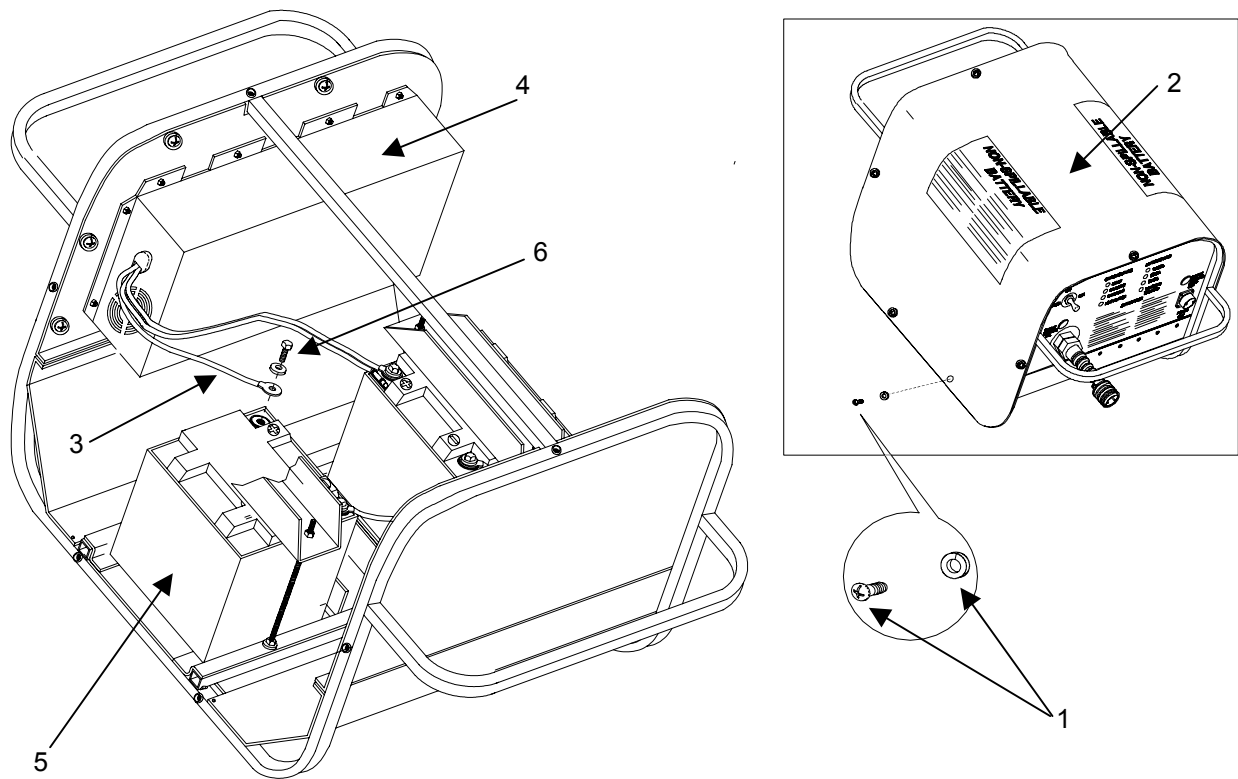

Figure 2. Disconnecting Battery Lead for Storage
1. Remove the six screws and lockwashers (**figure 2, item 1**) that secure the outer cover (**figure 2, item 2**).
2. Locate the RED power lead (**figure 2, item 3**) that extends from the internal charger (**figure 2, item 4**) to the battery (**figure 2, item 5**).
3. Remove the terminal bolt (**figure 2, item 6**) that secures the RED power lead (**figure 2, item 3**) to the battery (**figure 2, item 5**). Remove the lead and cover the connector at the end of the lead with electrical tape.
4. Tuck the wire between the battery (**figure 2, item 5**) and the internal charger (**figure 2, item 4**), and re-install the terminal bolt (**figure 2, item 6**).
5. Install the outer cover (**figure 2, item 2**) on the Battery Pack with the six screws and lockwashers (**figure 2, item 1**) removed earlier.